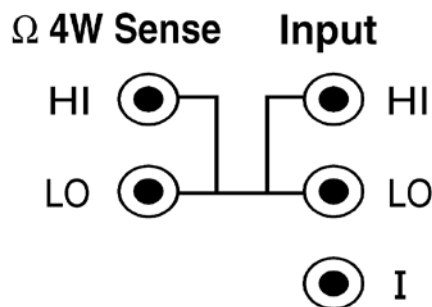

Figure 2-1 Short-circuit the Input HI-LO and Sense/Ref HI-LO Terminals
2. Use a 4-terminal short-circuiter to short-circuit the Input HI-LO and Sense HI-LO terminals and open the current input terminal, as shown in Figure 2-1.